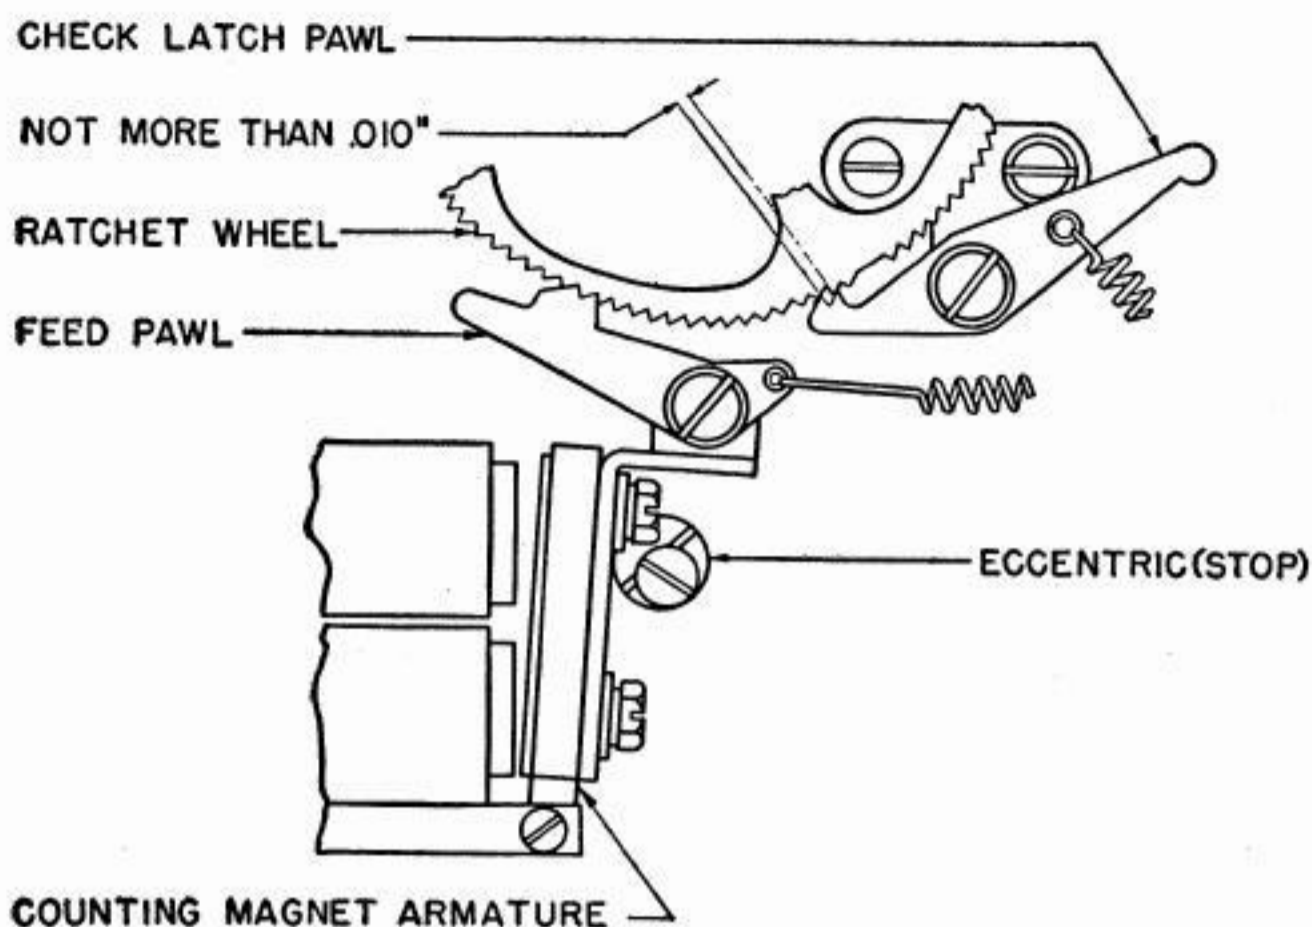

Fig. 27
- (a) To adjust, position the counting-magnet armature-eccentric (stop). **Fig. 27**